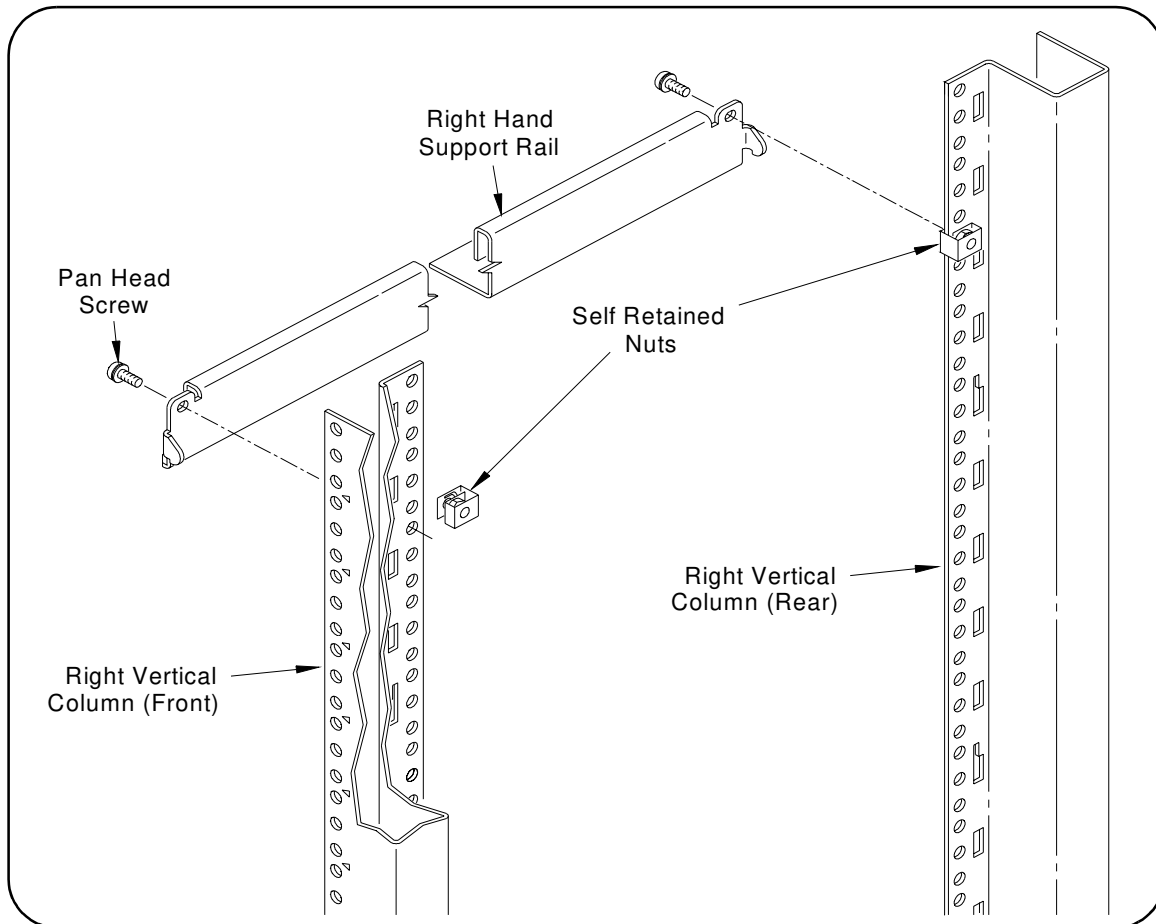

Figure 2-18. Installing Support Rails
Install Support Rails (Figure 2-18)
- 4 Secure each Support Rail to the columns as shown in Figure 2-18.